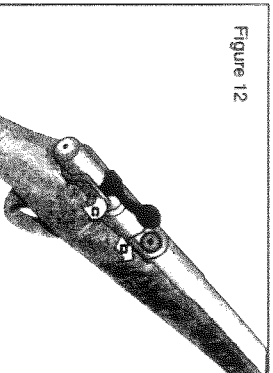

Figure 12
2. Cycle the Bolt Handle up, as per arrow "C". Then forward, as per arrow "D" (Figure 12).